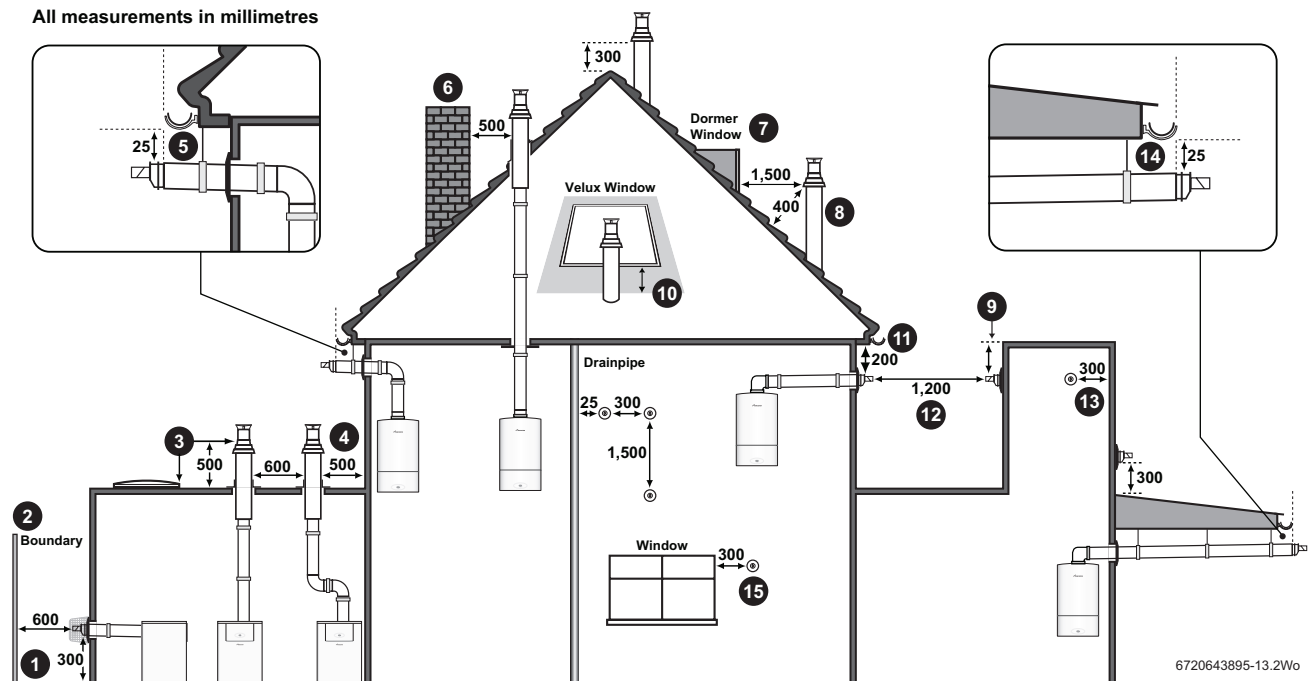

Fig. 22 Flue terminal positions
- ▶ Refer to figure 22 for all concentric flue terminal positions unless the flue position is specified on the figure above “Plume terminal positions”.